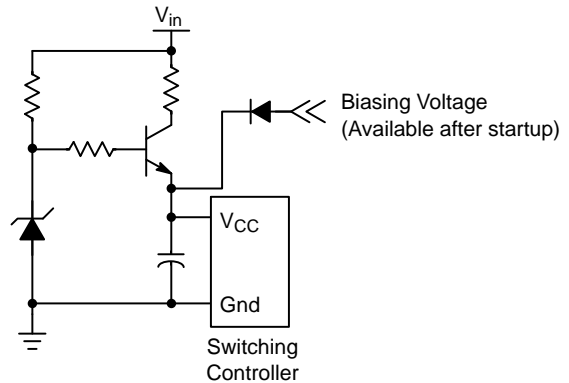
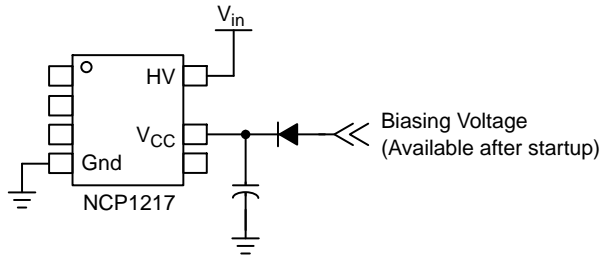

Figure 3. Disable the Resistor after Startup
Figure 4. Integrated Startup
Since the added resistor always consumes power, even an auxiliary  $V_{CC}$  supply voltage is available after startup, a modification to turn off the resistor is shown in Figure 3. The transistor conducts only at startup and will be opened later. After startup, an auxiliary  $V_{CC}$  supply is available and provides the  $V_{CC}$  biasing voltage. As long as the biasing voltage is higher than the zener reference voltage and the  $V_{BE(ON)}$  of the transistor, the transistor will be off. It is noted that the operating current of the zener diode needs to be small to save the power dissipated there because it is always operating when input voltage  $V_{in}$  is applied.
Some of the controllers in ON Semiconductor offer High-Voltage (HV) startup features such as the NCP1200 series. It integrates the complex circuit in Figure 3 to Figure 4.